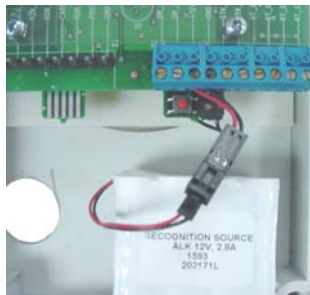

Figure 6-5 – New Battery Pack Installed
- 6.4.3 Install the Battery Pack into the Transceiver Control Module enclosure using the Velcro provided AND connect the Battery Pack Connector to its mating connector that is factory connected to J4 (Figure 6-5).
- 6.4.4 To continue to use the WISI on the same RF channel and with the same WPIM, make certain that no WPIMs are in the Link Mode, then press and release the WISI Reset Switch located below and to the left side of J4 (Figure 6-5). This insures that the WISI has started properly. Re-install the WISI cover, making certain that no wires are pinched. The cover should go on easy with no interferences. Replace the 4 cover screws, one in each corner (Figure 6-1).